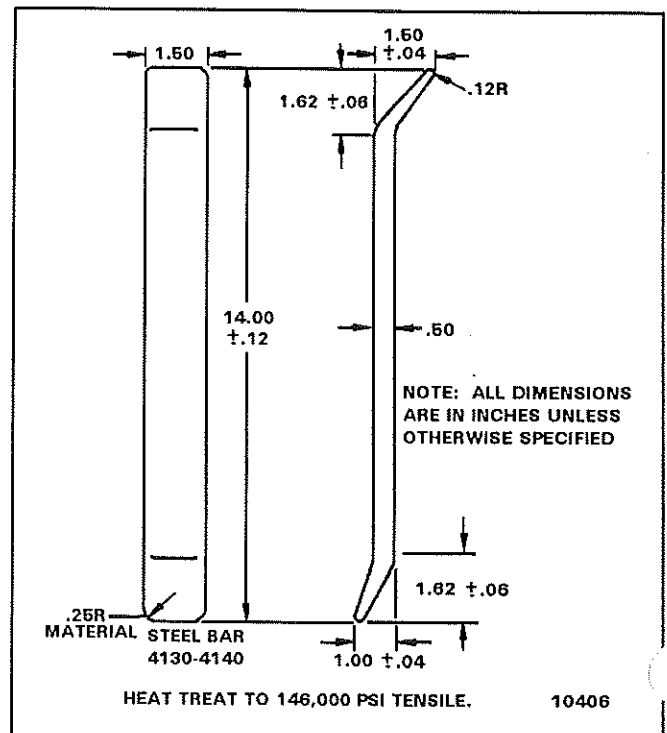

FIGURE 1 - PISTON RETRACTION TOOL
3. Remove the lining retaining plates (2 and 20) from one end of the brake assembly, and remove the worn linings (16).
5. Using a special piston retraction tool (Figure 1) placed between the disc and the face of each piston, force the pistons back into the bores as far as they will go.